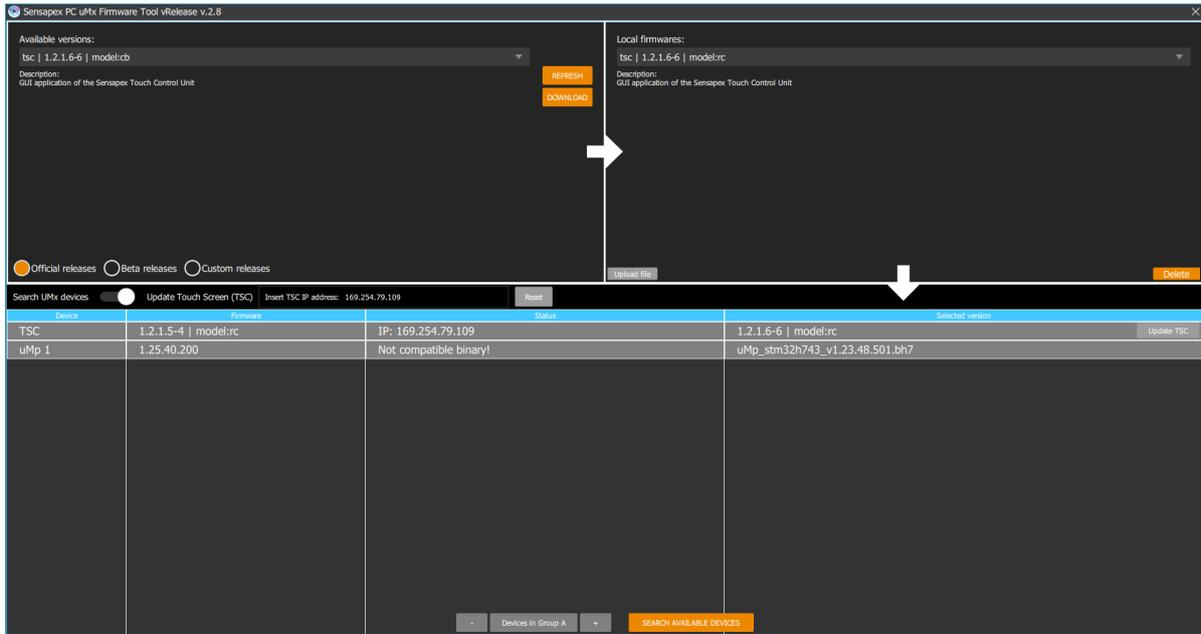

Figure 1. Sensapex Firmware update tool user interface.
3. Press SEARCH AVAILABLE DEVICES button and confirm that the Sensapex products that are connected to the PC are shown in the list (Figure 1).
- Toggle ON Update Touch Screen (TSC) -selection from the firmware update tool and set the IP address accordingly (Figure 1).
8. UPDATE button will appear next to the listed products when firmware that is compatible with it is selected from the Local firmwares drop-down menu (Figure 1).